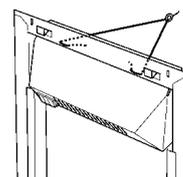

Figure 5
- Thread one end of the steel wire through two holes in the top flange, passing the wire through the eyebolt and out through one of the opposite holes on the top flange – See figure 5.
- Place the heater in the fireplace opening, then by gently pulling the steel wire, gather up the excess until the heater is firm. Thread the wire back through the remaining hole to lock the wire and heater in place – See figure 5.